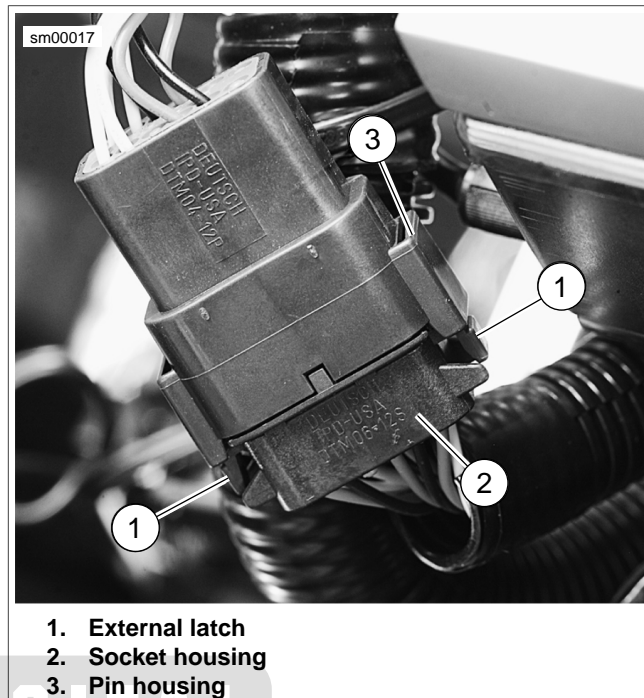

Figure A-10. Deutsch Connector
See Figure A-10. To separate the connector halves, depress the external latch(es) (1) on the socket housing (2) while rocking the pin (3) and socket housings.